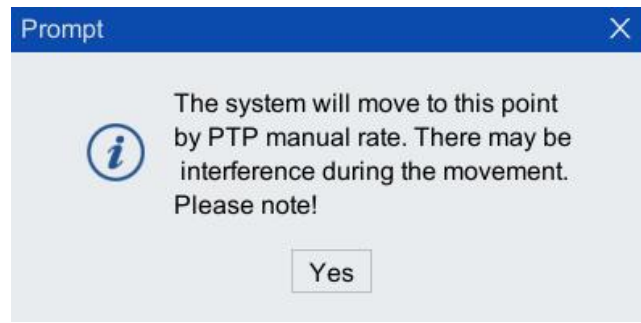

Figure 5-75 "Prompt" Box
- Step2. Then click the <Move to this point> button, as shown in Figure 5-75, "The system will move to this point in manual override PTP mode. There may be interference during the movement, "please pay attention!" prompt box. After clicking <OK>, the robot starts to move. At this time, the display of the <Move to this point> button immediately changes to <Stop>. If there is interference during the movement, you can directly click the <Stop> button to stop the movement, and wait until the robot moves to the selection after the selected point, the <Stop> button returns to the <Movement to this point> button.